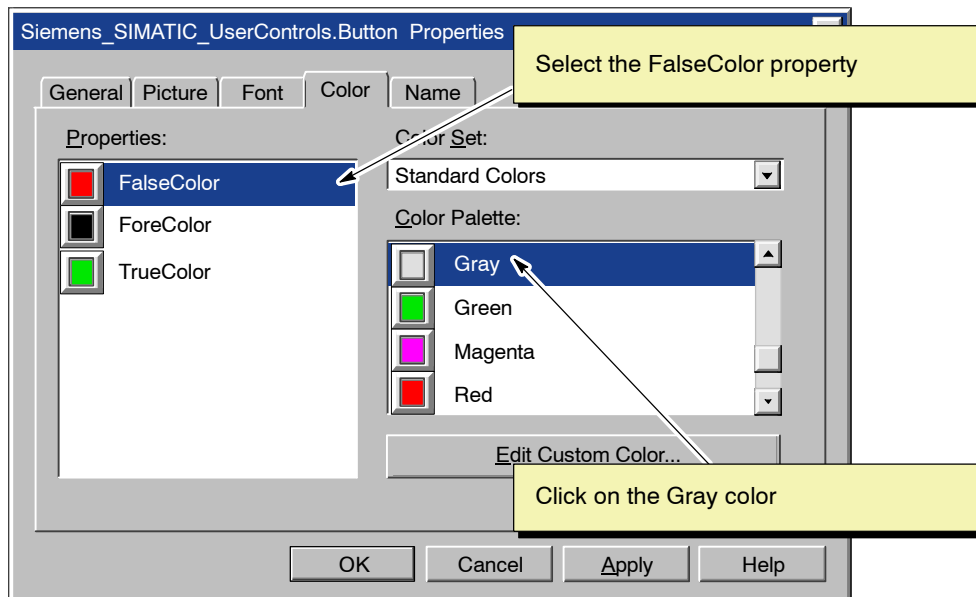

Figure 3-22 Configuring the False Color for Button2 (Button control 2)
- Select (click on) FalseColor in the Properties box and click on the color Gray in the "Color Palette" box. See Figure 3-22.